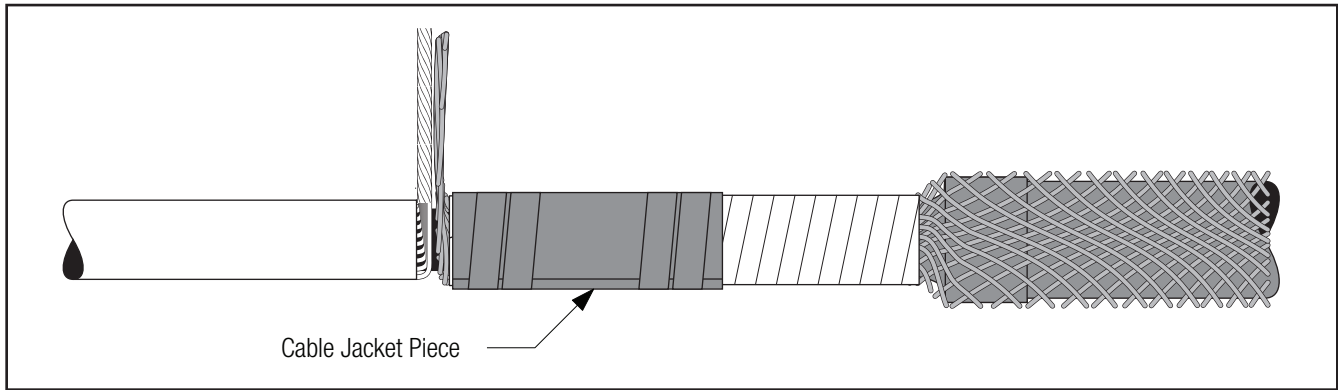

Figure 33
- 6.5.3 Place a 3-4" piece of cable jacket over the rubber or vinyl tape and cable semi-con as shown below. Secure with vinyl tape (*Figure 33*).